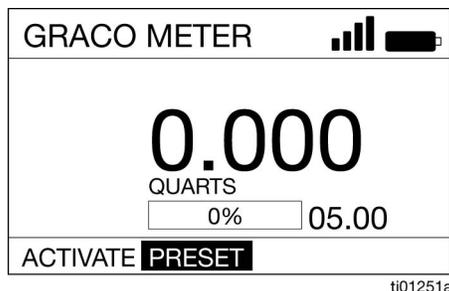

FIG. 27
3. Use the RIGHT ARROW to highlight PRESET (H) on the screen, and press ENTER to select (FIG. 27).